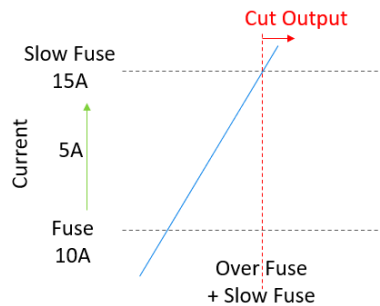

Figure 2-8-7 Overcurrent
■ Over Current Buffer limit (Figure 2-8-7):